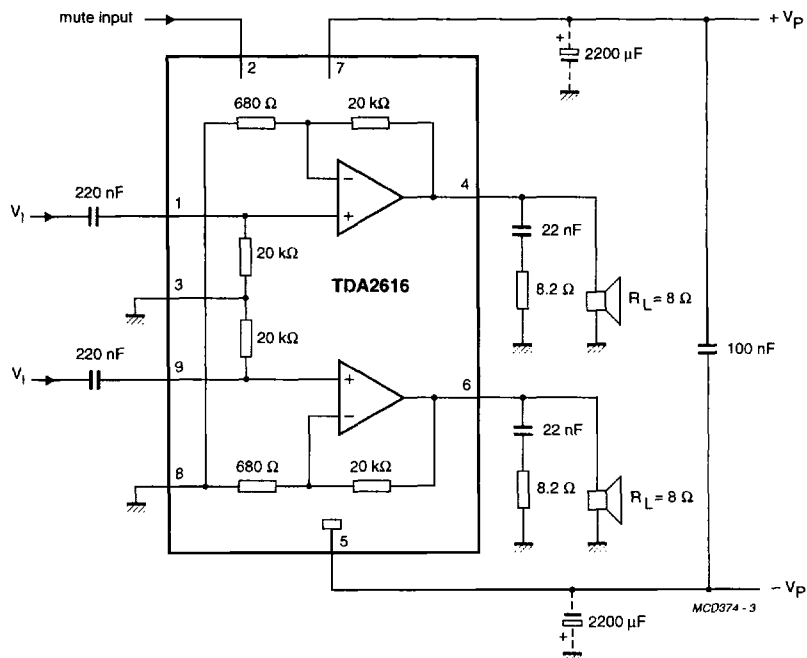

Fig.4 Test and application circuit with symmetrical power supply.
- $V_P = \pm 16 \text{ V}$; $R_L = 8 \Omega$; $T_{amb} = 25^\circ\text{C}$; $f = 1 \text{ kHz}$; symmetrical power supply $I_{MUTE} < 30 \mu\text{A}$. See Fig.4
- $\pm V_P = 4 \text{ V}$; $R_L = 8 \Omega$; $T_{amb} = 25^\circ\text{C}$; $f = 1 \text{ kHz}$; symmetrical power supply. See Fig.4